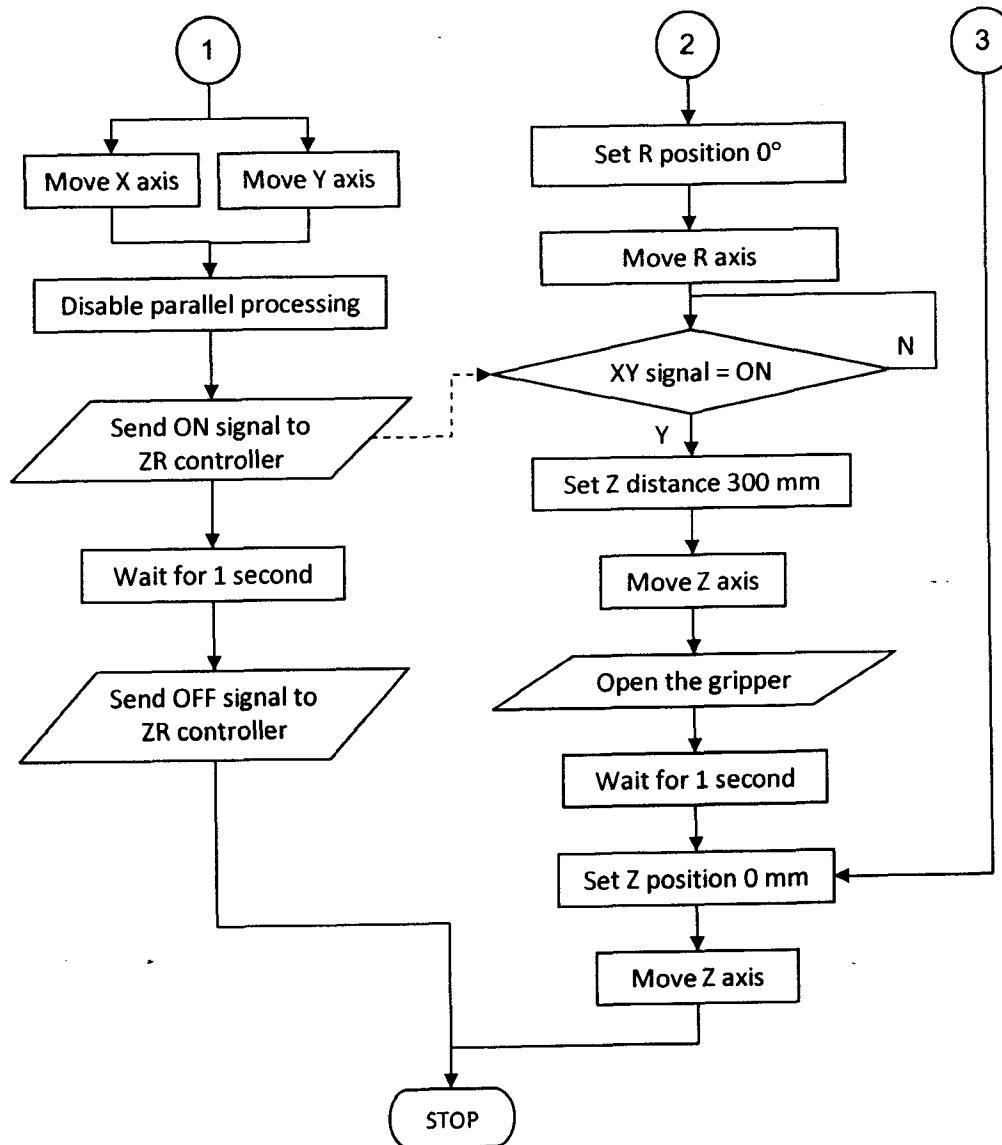

Figure Q3[b]
- [b] The flow chart in Figure Q3[b] shows the task of gantry robot to pick a component from a loading station and place it on a sliding table. The Output 1 and Input 2 of the XY motor controller is connected to the Input 1 and Output 4 of the ZR motor controller respectively. The Output 3 of the ZR motor controller is connected to the solenoid valve of the gripper. The input 2 of the ZR motor controller is connected to the optical sensor at the gripper. Write a program for the robot according to the given flow chart.